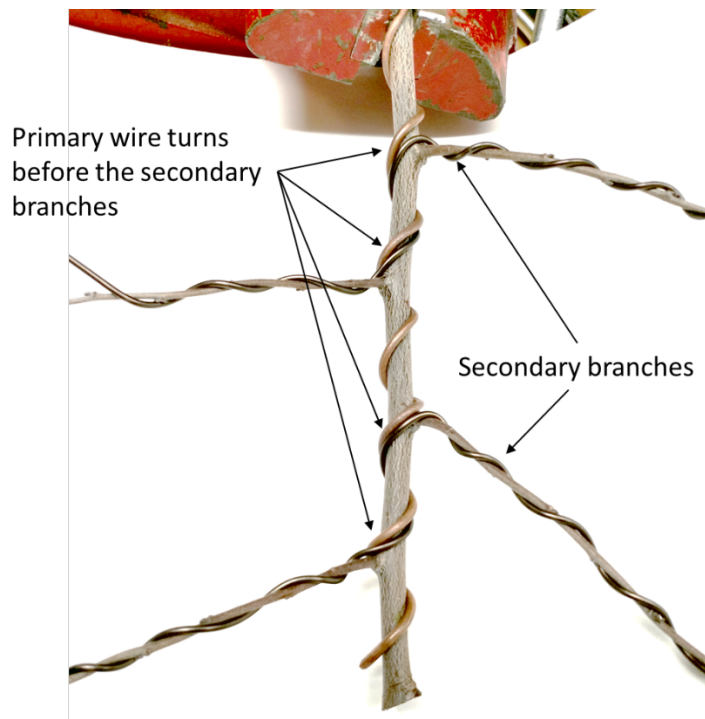

Figure 5.
- As a primary branch is wired, try to make sure that when the wire comes to a branch (secondary branch) it turns before the branch (**Figure 5**). If this is done in every case then wiring the secondary branches is easier. This applies to secondary/tertiary wiring as well.
- As with primary wiring, try to make sure that when the wire comes to a branch (tertiary branch) it turns before the branch (Figure 5). If this is done in every case then wiring the tertiary branches is easier.